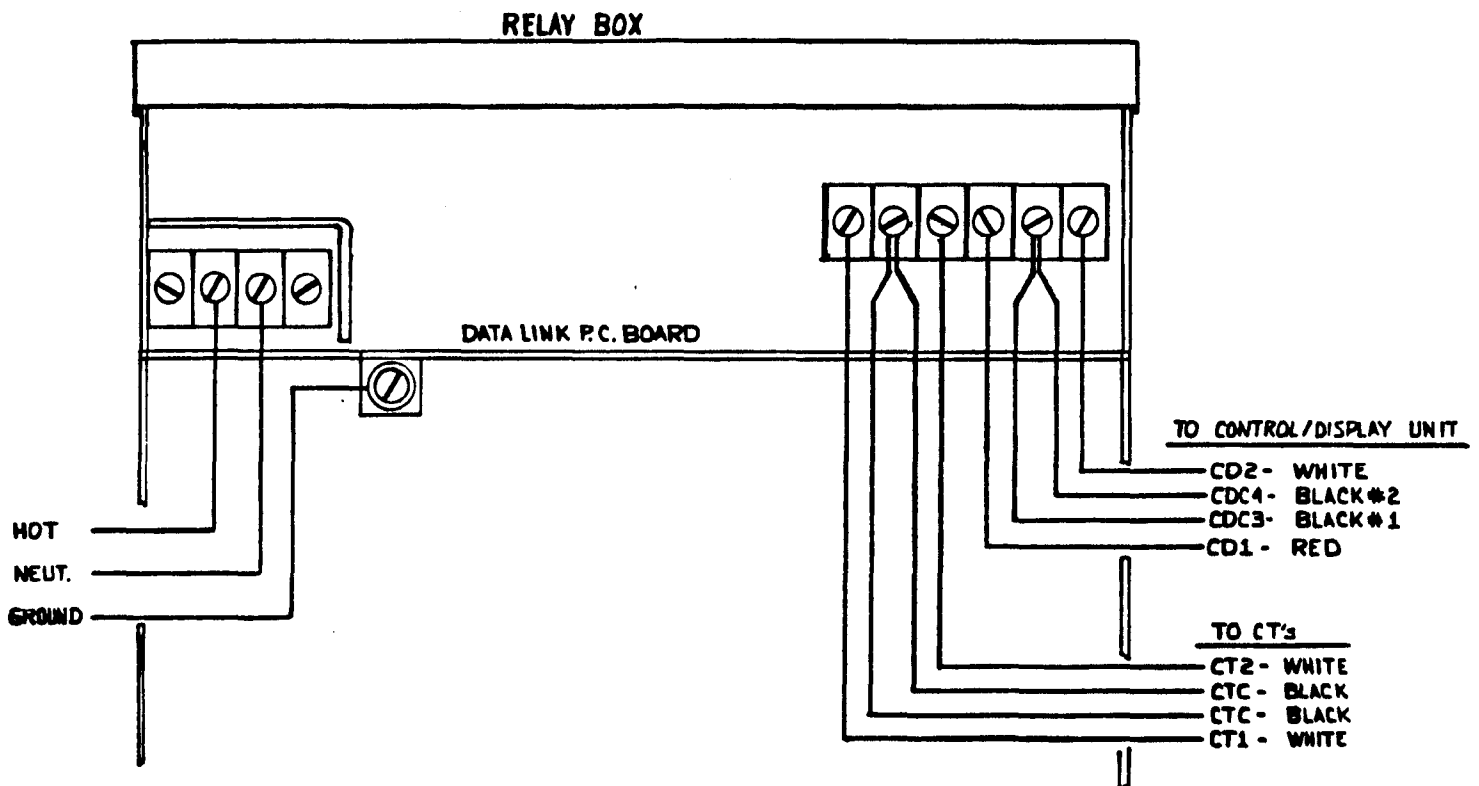

Figure 4
- c. Connect spade terminals (or bare wires) to terminal strip in lower right hand corner of Data/Link printed circuit board as shown in Figure 4 (on page 10) or the wiring diagram on Relay Unit inside cover or in TABLE 2.
4. Connect the wires to terminals T1 and T2 in the lower left hand corner of the Data/Link printed circuit board as shown in Figure 4 or on the wiring diagram on the inside cover of the Relay Unit.